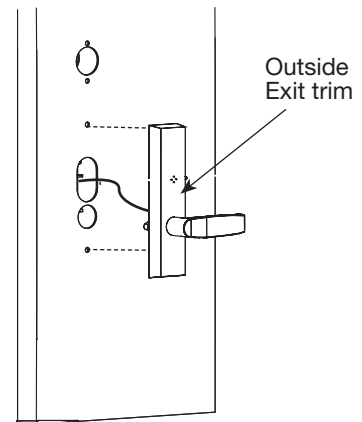

Fig. 3A
1. For exterior applications, use ET gasket (52-0263) to seal ET escutcheon and outside door surface (Fig. 3A).